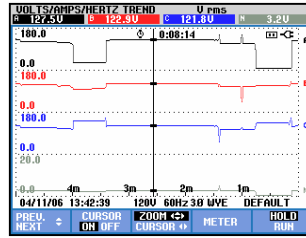

Figure 19-6. Trend display with cursor and zoom on
- Press F3 to assign the arrow keys to Zoom operation. The left/right arrow keys can be used now to stretch and shrink the trends horizontally as shown in figure 19.6. The up/down arrow keys do this in vertical direction. If the Cursor is on, horizontal zoom operates symmetrically around the Cursor; when off horizontal zoom operates from the right screen side. Vertical zoom operates around the screen center.